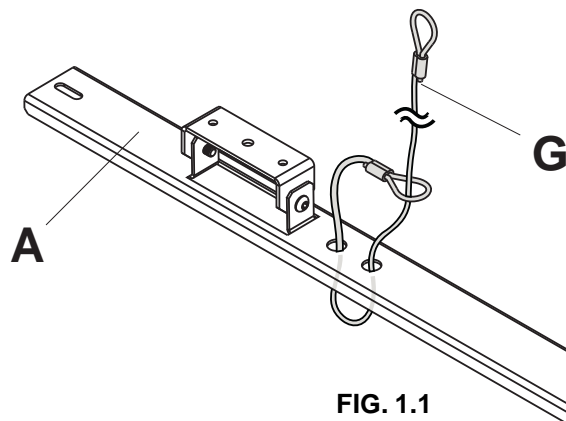

FIG. 1.1
**1** Feed safety cable (G) through holes in bracket assembly (A) and through itself as shown in figure 1.1.